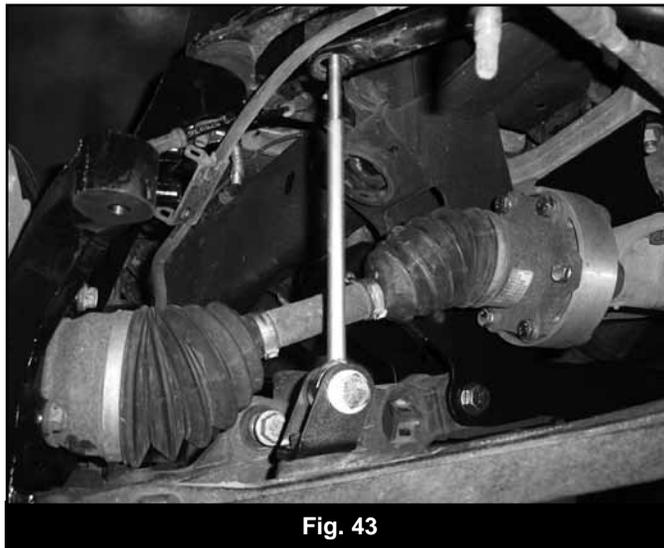

Fig. 43
75. Locate the new front sway bar links (911109), small hourglass bushings (SB35BK) and 0.750" OD x 1.575" long sleeves (54587). Install the bushings and sleeves into the eyes of the links. Install the links into the new brackets on the lower control arms with 9/16" x 2-3/4" bolts, nuts and washers (BP 569). Run the bolts from front to rear and leave hardware loose (Fig 43).